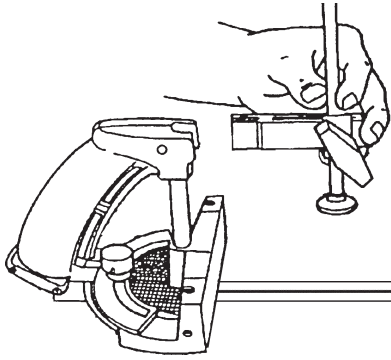

Figure 46
- Place the Miter Gauge in the Right Miter Gauge Slot, and use a 5/32" Allen Wrench to remove the Quick Clamp from the Safety Grip, as shown in Figure 46.